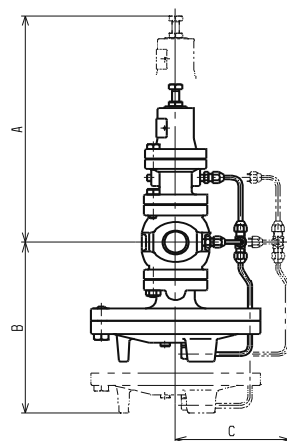

Fig.2
- (6) **Install the valve perpendicularly to horizontal lines with the diaphragm chamber located at the bottom.**
- (7) **Be extremely careful not to damage the copper pipe .**
- (8) **Do not apply excessive load, torque or vibration to the valve .**
- (9) **Use the sensing pipe (ϕ 8-2m) and joint (ϕ 8-R1/4) provided.**
- (10) **Use the gate valve as a stop valve at the inlet and outlet sides of the combination valve.**
- (11) **When installing, reserve the space shown below (Fig.2) in both upper and lower side of the pipe center of the product for the maintenance and checking.**